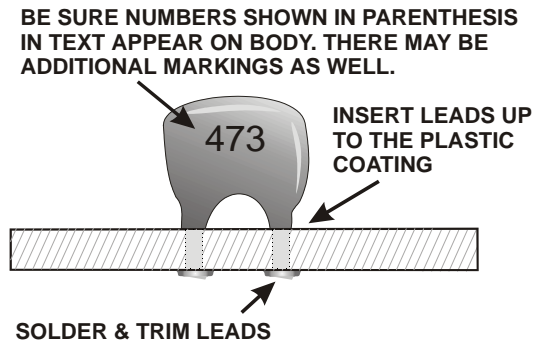

Figure 9. Installing Capacitors.
Install capacitor C1, .047 μ F (473) on the *back* side of the PCB (the side that is *not* silk-screened). Position the capacitor as shown in Figure 9.